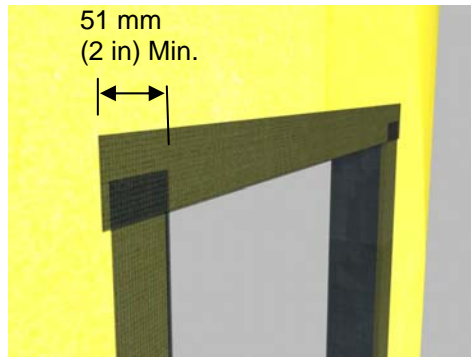

Figure 4
- 5) Install the AquaFlash System at the head overlapping the jamb pieces a minimum of 51 mm (2 in) -Figure 4.